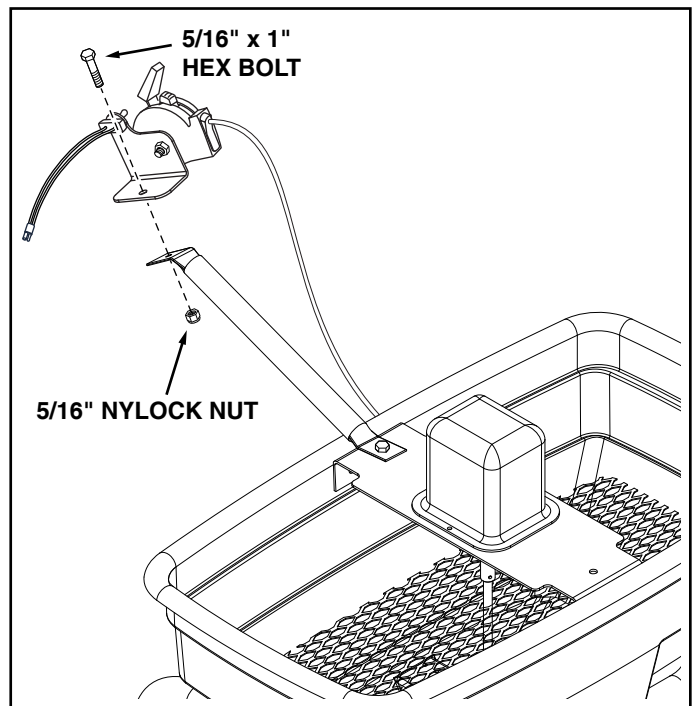

FIGURE 8
15. Attach the flow control to the control mount bracket using a 5/16" x 1" hex bolt and a 5/16" nylock nut. See figure 8.